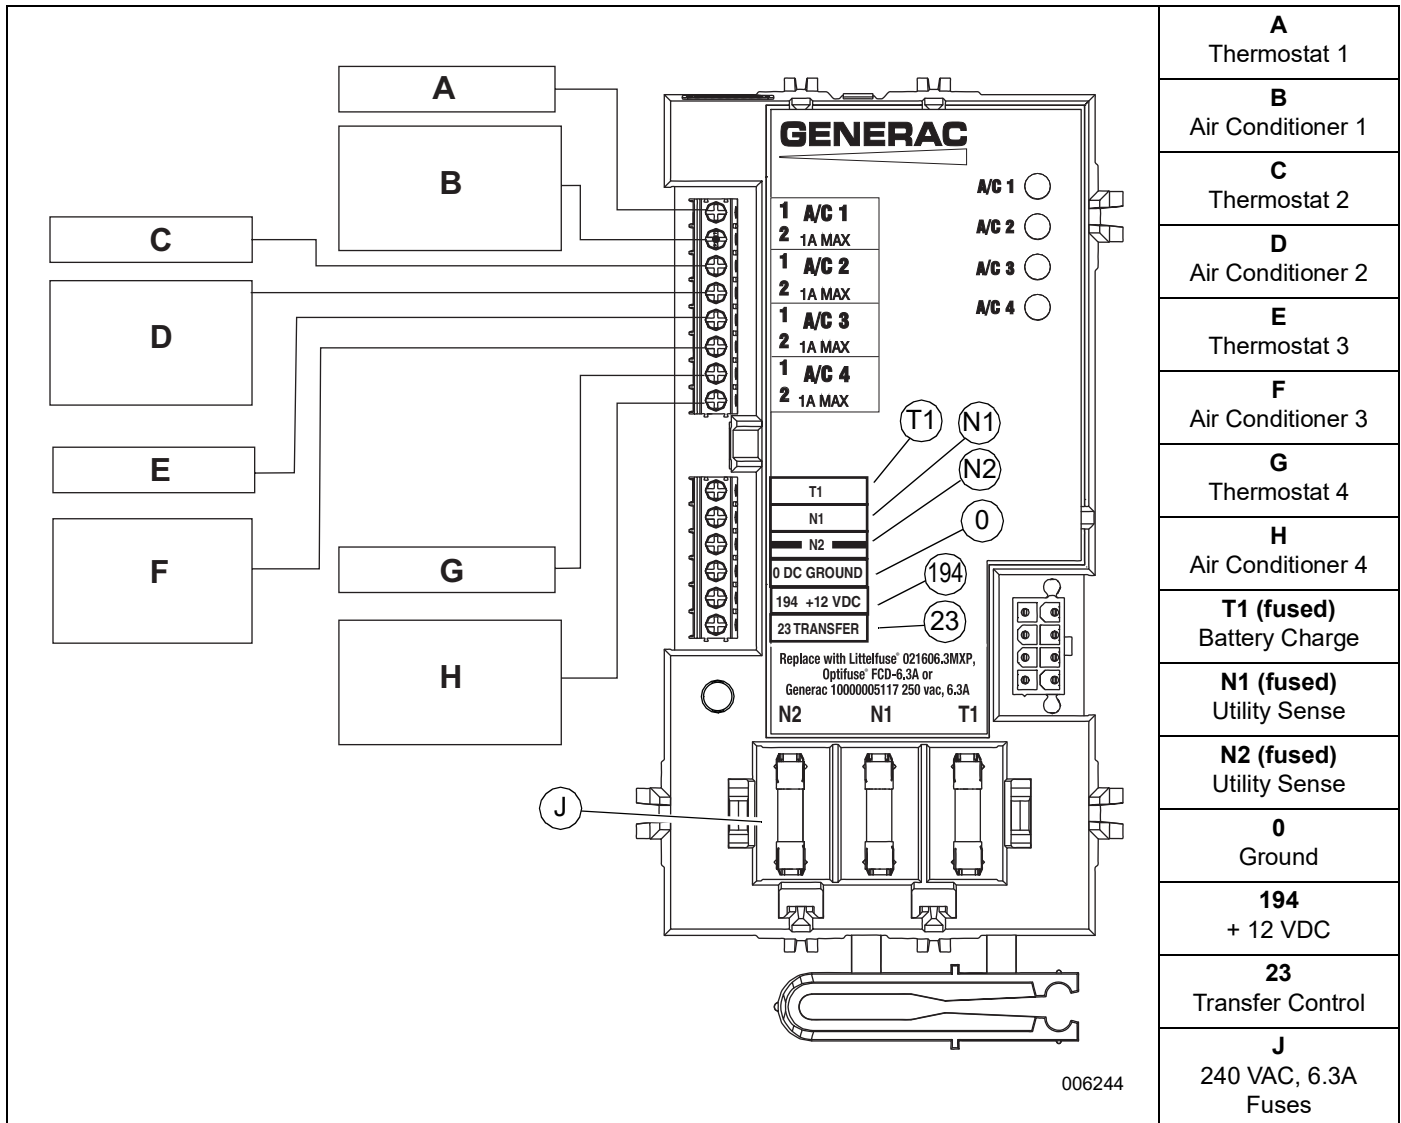

Figure 3-3. Typical SACM Connections
See **Figure 3-3**. Control system interconnections consist of N1, N2, and T1, and leads 23, 0, and 194. The generator control wiring is a Class 1 signaling circuit. Reference instruction manual of specific engine generator for wiring connection details. Screw heads are straight bladed and cross-bladed, and should be tightened to 3.5 **in-lb** (0.4 Nm).
See **Figure 3-3**. The SACM can control an air conditioner (24 VAC) directly.
2. Connect the wire to the terminal strip terminals (A/C 1) on the SACM as shown in **Figure 3-3**. These are normally closed contacts which open upon load shed conditions. Route thermostat wire away from high voltage wires.